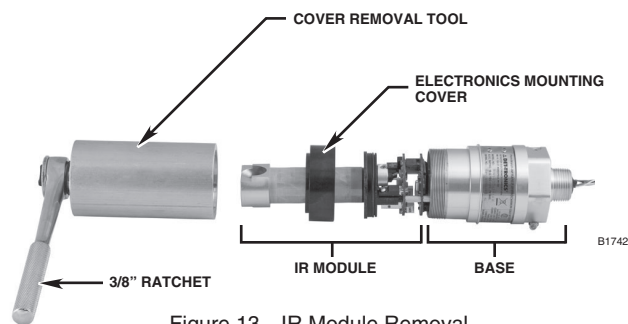

Figure 13—IR Module Removal
3. Slide the electronics mounting cover away from the base and pull the IR module out of the base as shown in Figure 13.